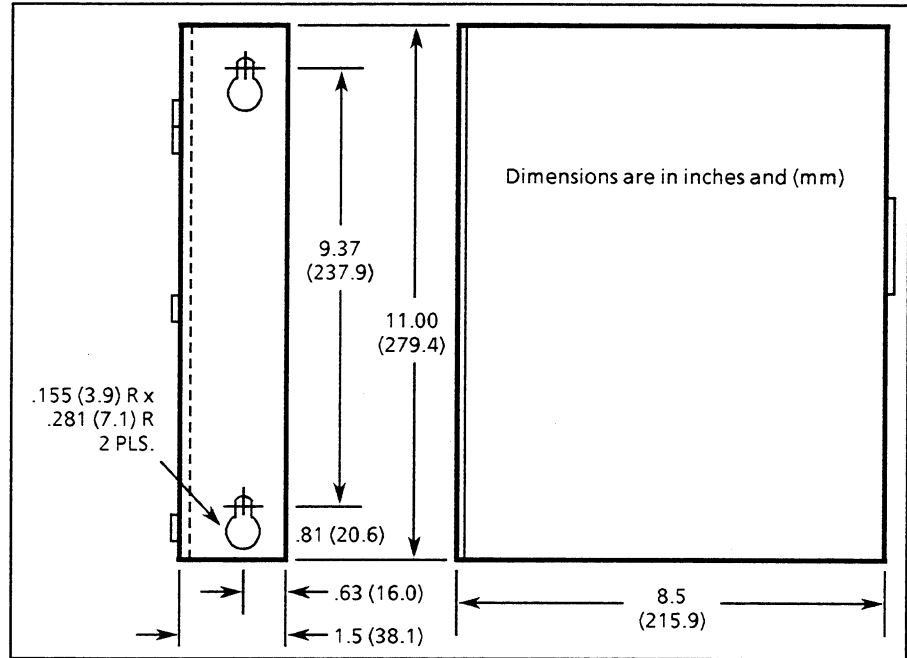

Figure 1 - Bracket Mounting Dimensions
- 2. Locate the area that the Kit is to be mounted. Using Figure 1 and the Mounting Bracket as a guide, mark and drill two (2) 1/4" (6.35mm) holes. Proceed to step 4.